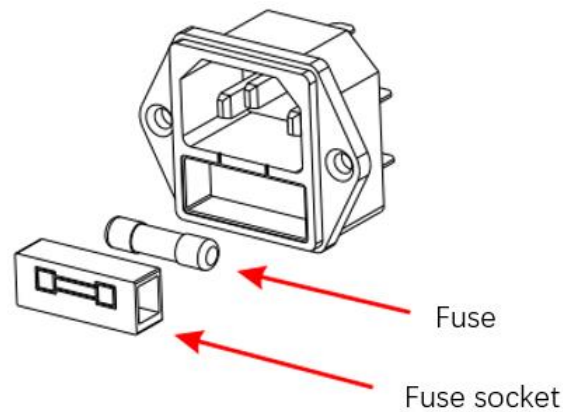

Figure 1-2 Exploded View of Power Socket
- (1) Turn off the instrument and disconnect the power cable.
- (2) Insert a straight screwdriver into the groove of the power slot and gently pry out the fuse socket.
- (3) Remove the fuse and replace it with a specified one. Refer to Figure 1-2.
- (4) Reinstall the fuse socket to the power socket, ensuring the correct orientation.